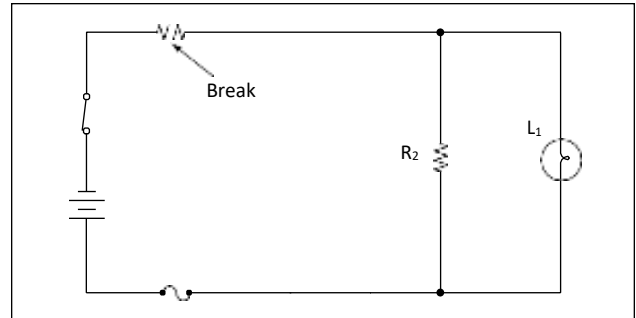

Figure 10-178. An open in the series portion of a series-parallel circuit.
Troubleshooting a series-parallel resistive circuit involves locating malfunctions similar to those found in a series or a parallel circuit. Figures 10-178 through 10-180 illustrate three points of failure in a series-parallel circuit and their generalized effects.
1. In the circuit shown in Figure 10-178, an open has occurred in the series portion of the circuit. When the open occurs anywhere in the series portion of a series-parallel circuit, current flow in the entire circuit will stop. In this case, the circuit will not function, and the lamp, L_1 , will not be lit.